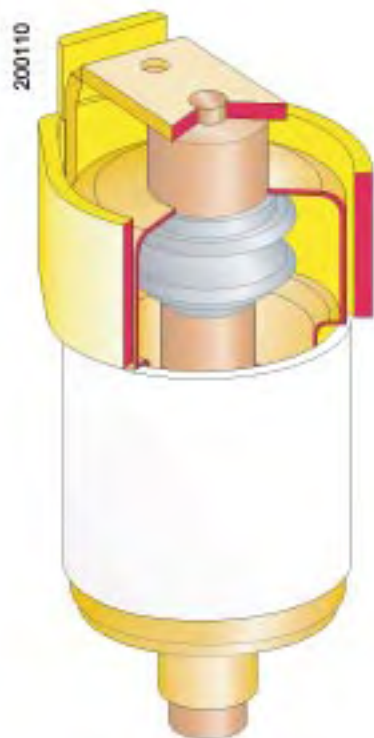

Fig 4: 17.5 kV external coil type interrupter
- either by a coil outside of the interrupter (fig. 4), for rated voltages up to 17.5 kV,